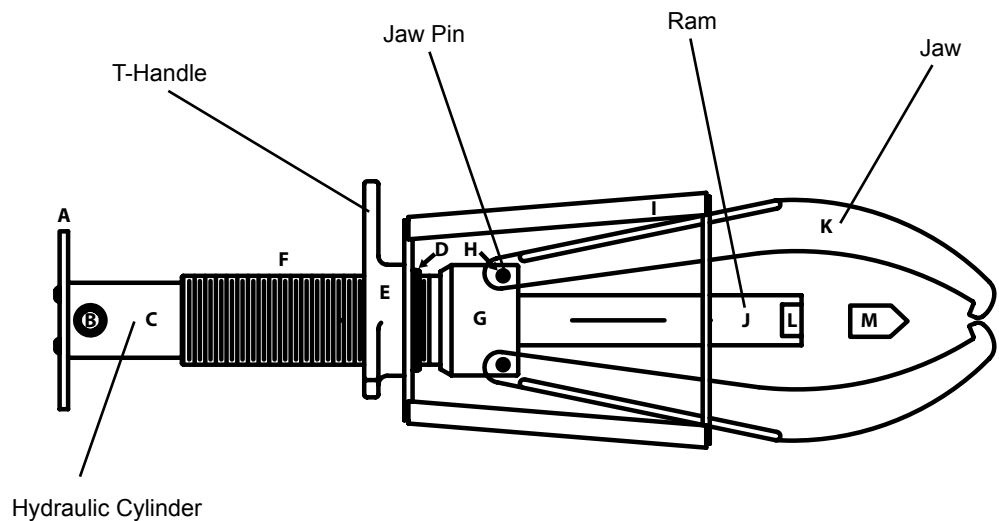

Figure 2 - Hydraulic Gear Puller
1. Place pump at a higher elevation than the hose and cylinder as shown in Figure 2.
| Erratic action                                                                | <ul style="list-style-type: none"> <li>Air in system or pump cavitation.</li> <li>External leakage in cylinder.</li> <li>Cylinder sticking or binding.</li> </ul>                                                                                    | <ul style="list-style-type: none"> <li>Vent the system (refer to figure 2).</li> <li>Contact service center.</li> <li>Contact service center.</li> </ul>                                                                                                                                                                                                                        |
| Cylinder performs poorly                                                      | <ul style="list-style-type: none"> <li>Oil level in pump is low.</li> <li>Air trapped in system.</li> </ul>                                                                                                                                          | <ul style="list-style-type: none"> <li>Ensure proper oil level.</li> <li>Vent the system (refer to figure 2).</li> </ul>                                                                                                                                                                                                                                                        |